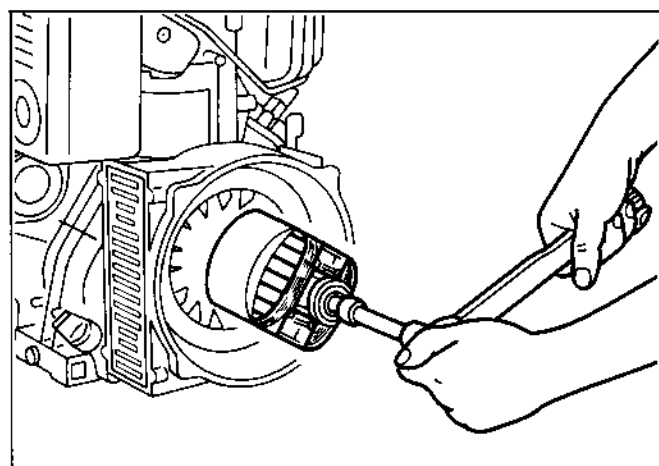

Fig. 10-25
- (1) Clean the tapered portion of driving shaft and the matching tapered hole of rotor shaft of oil and dirt using a waste cloth.
- (2) Attach rotor to the driving shaft. (See Fig. 10-25.)